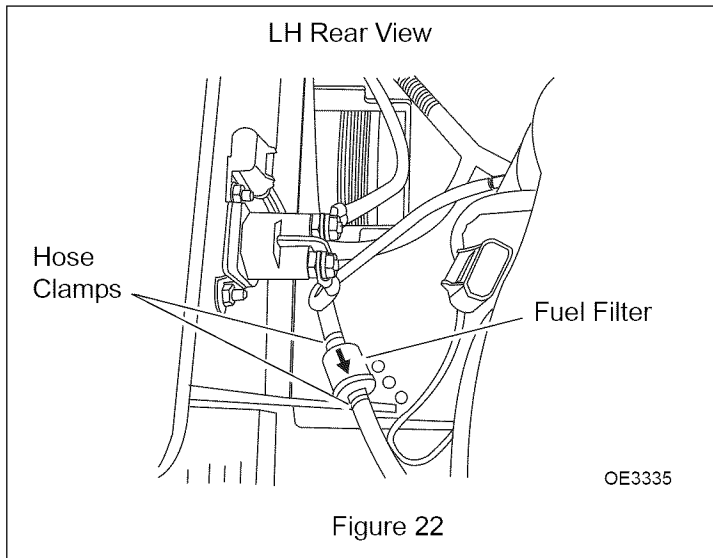

Figure 22
4. Disconnect the hose clamps (1) from the fuel filter, see figure 22.
5. Slide the fuel line off of both ends of the fuel filter (2).
6. Install the new fuel filter paying close attention to the flow direction (3) noted on the fuel filter.